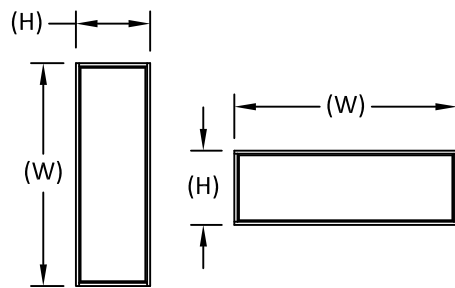

FIGURE A.2
- WINDOW WIDTH (W) AND HEIGHT (H) ARE INTERCHANGEABLE FOR ALL SIZES SHOWN HEREIN. SIZE NOT TO EXCEED MAXIMUM DIMENSIONS SHOWN. REFER. TO FIGURE A.2.